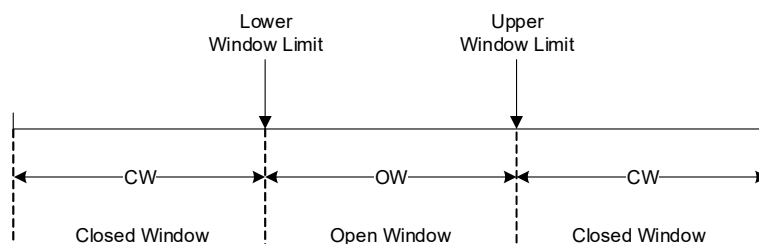

Figure 45. Period Windows and Limits
The PMIC uses SPI writes to the WDT_KICK_REG register or optionally a WDENB pin change to detect periodic activity from a host system to ensure system health. The WDT uses an open window (OW)/closed window (CW) timer concept to measure periods between kicks as shown in Figure 45. Kicking the WDT too frequently or too infrequently can indicate a system software problem potentially requiring a reset for the host or PMIC itself.